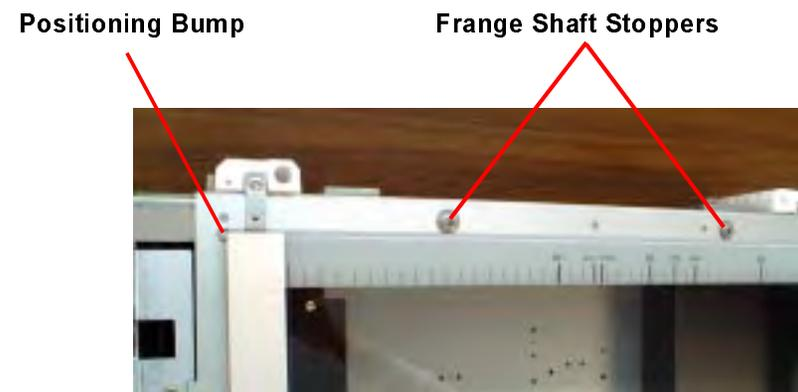

Figure 4-20. Determining the Glass Frame Assembly Position
2. While referring to Figure 4-20, determine the installation position according to the following procedure: